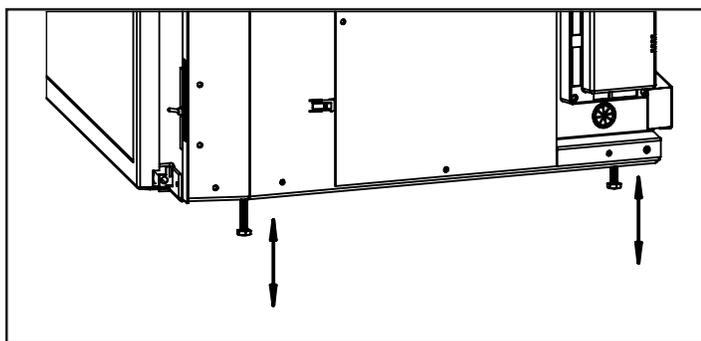

Figure 31: Levelling Legs Position.
8. Adjust the levelling legs to ensure the unit is level and high enough if a base shelf and/or riser is to be installed. There are four levelling legs on the bottom of the unit (shown in Figure 31).